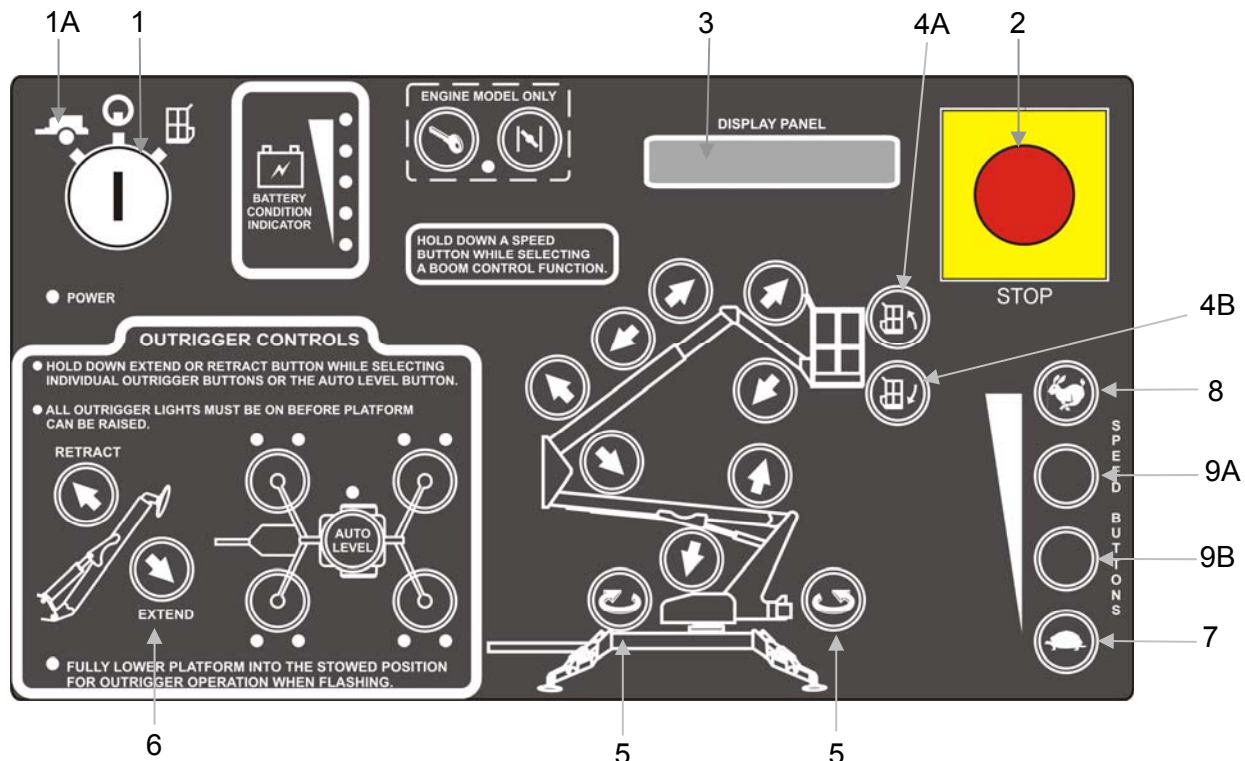

Figure 4-14. Ground (Lower) Control Panel for Overload Protection
- 2) Use the ground (lower) control panel to access the control box maintenance menu. Refer to Figure 4-14.